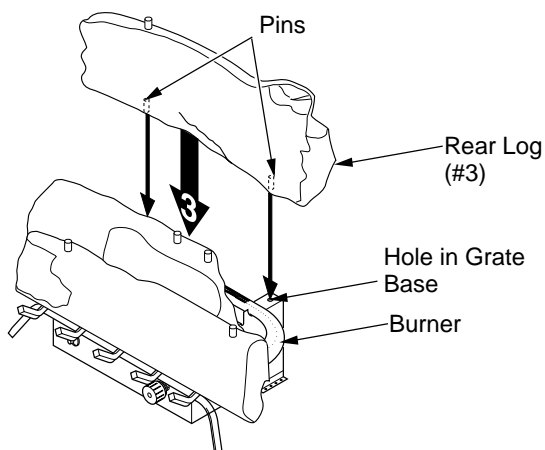

Figure 26 - Installing Rear Log #3 (CCL3930PTB/NTB Shown)
- Locate pins on the bottom of back log (#3). Slide these pins into the holes in the grate base behind the burner (see Figure 26).